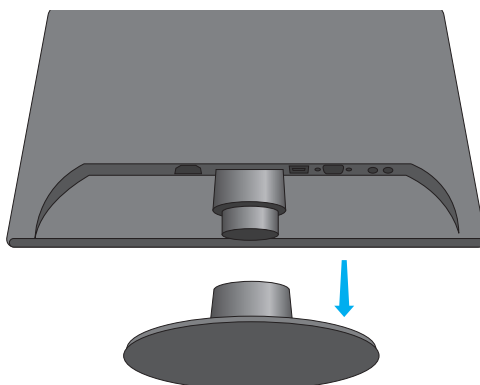

Fig. 3.1
2. Remove (if attached) and discard the monitor base stand (see Fig. 3.1).